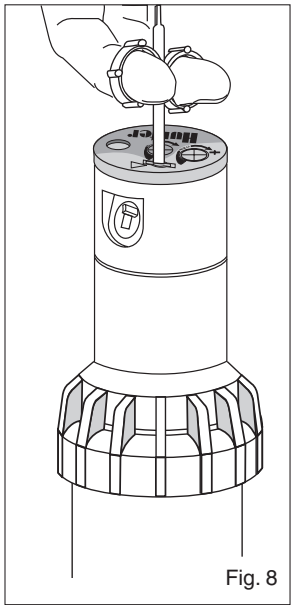

Fig. 8
1. Insert the plastic key end of the Hunter wrench into the lifting socket of the sprinkler and turn 90°. Pull the riser up to gain access to the nozzle socket (Fig. 8).